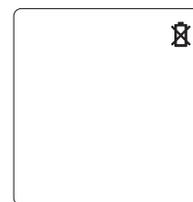

Figure 8
1. Replace battery when "🔋" appears in the upper right corner of LCD display. (See Figure 8)